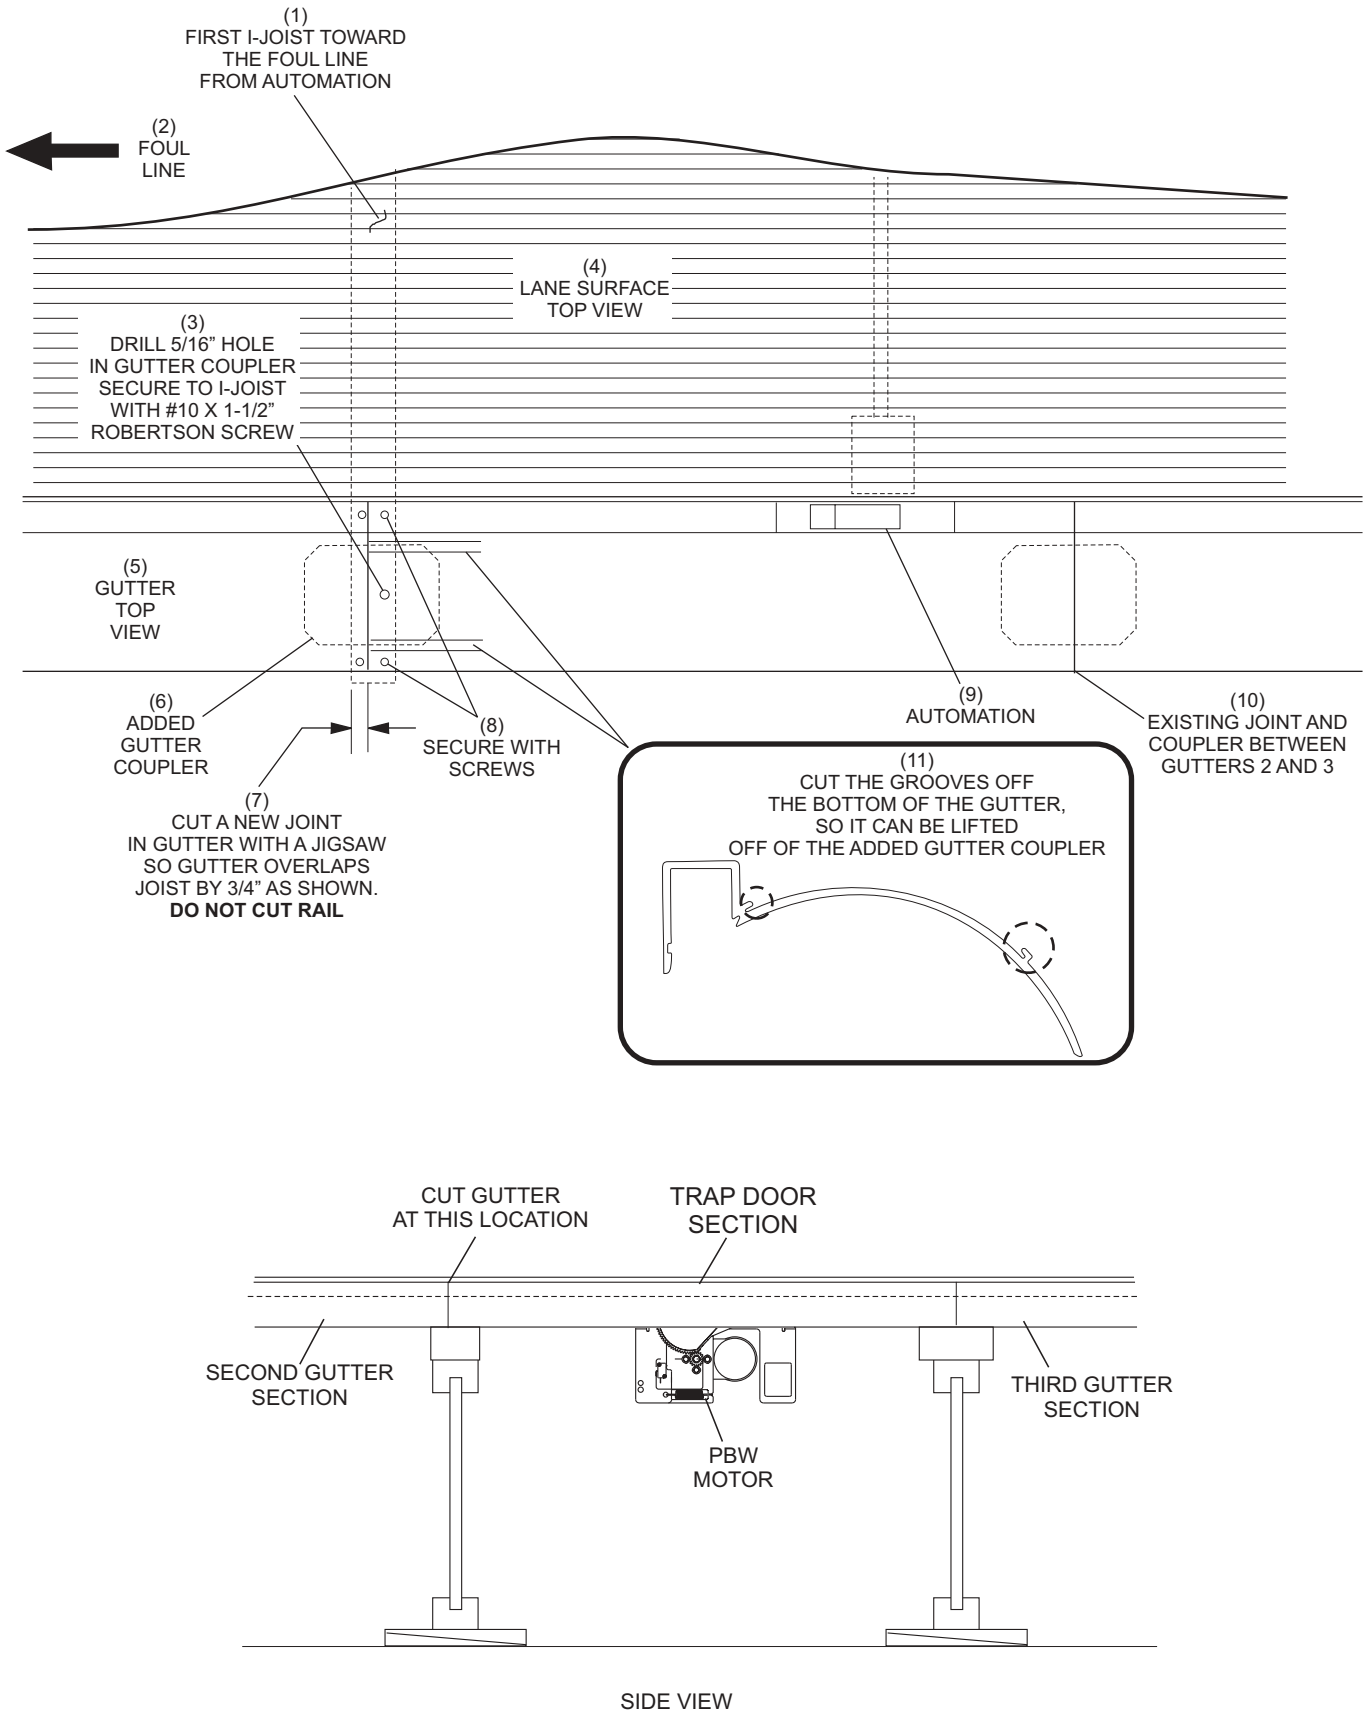

Figure 1
3. To create the Pinball Wizard trap door, locate the first truss or I-joint toward the foul line from the drive motor. Measure the distance from the edge of the third gutter section to the center of this truss or I-joint (this should be approximately 3/4" from the front edge of the I-joint). Transcribe that measurement onto the second gutter section and cut the gutter section at this location. This will create the trap door section. Refer to Figure 1.
6. Drill a 5/16" hole in the center of the exposed gutter coupler. Carefully bevel the 5/16" hole using a 3/8" drill bit. This will allow the screw head to countersink into the plate. Secure the gutter coupler with a #10 x 1-1/2" Robertson screw to the truss or I-joint. Refer to Figure 1.